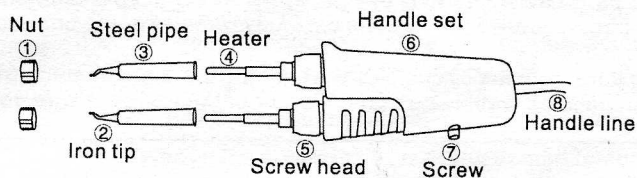

Figure 2 Welding head replacement
1. The replacement of the tip (Figure 2)